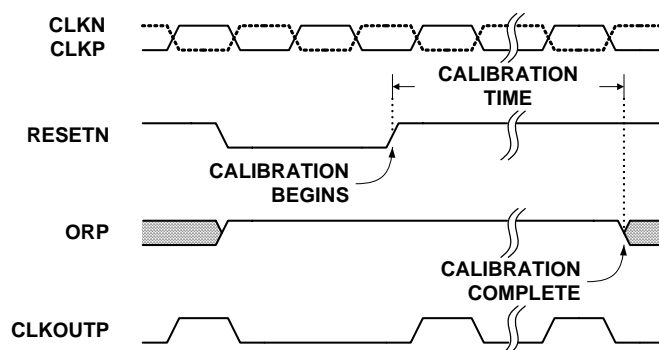

FIGURE 24. CALIBRATION TIMING
The calibration sequence is initiated on the rising edge of RESETN, as shown in Figure 24. The over-range output (OR) is set high once RESETN is pulled low, and remains in that state until calibration is complete. The OR output returns to normal operation at that time, so it is important that the analog input be within the converter's full-scale range to observe the transition. If the input is in an over-range condition the OR pin will stay high, and it will not be possible to detect the end of the calibration cycle.